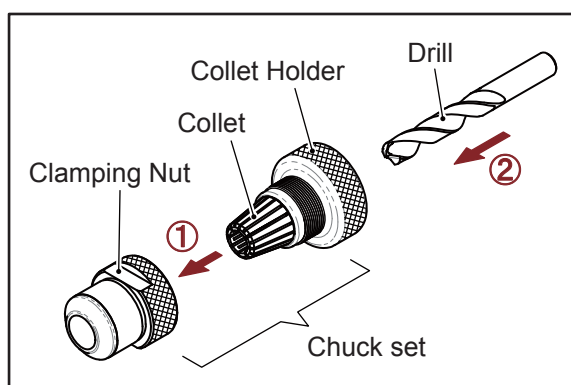
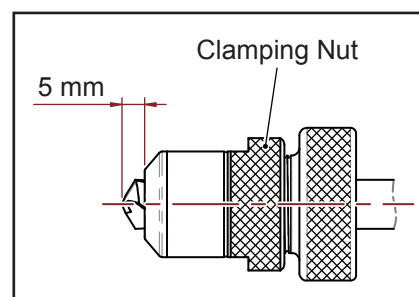

Fig. 6-2
Fig. 6-3
3. Screw in a little bit by clamping nut (Fig. 6-2 Step ①), then insert the drill through the collet holder (Fig. 6-2 Step ②), and push in until the drill is out of the clamping nut about 5 mm. (Fig. 6-3)